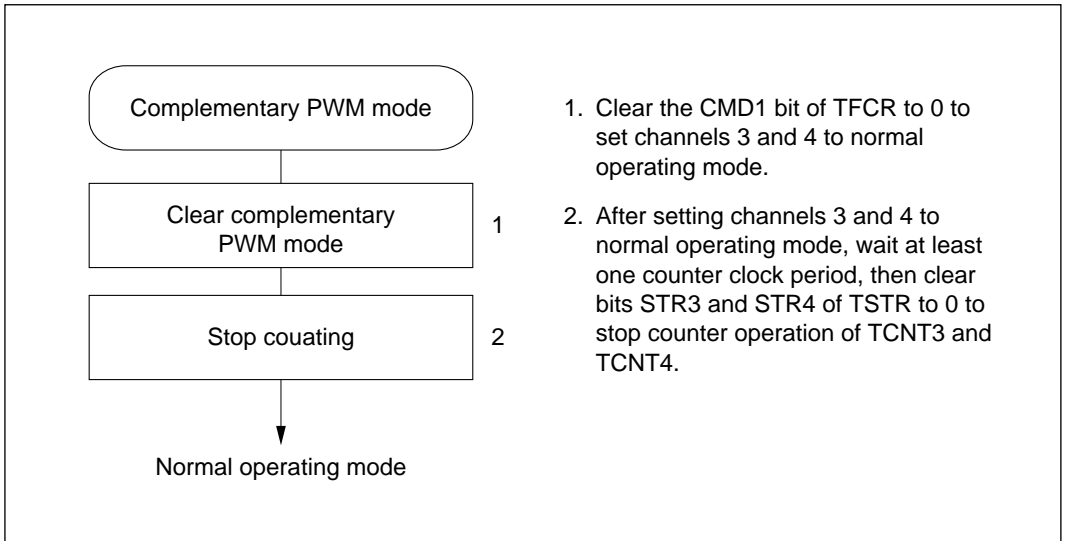

Figure 10-34 Clearing Procedure for Complementary PWM Mode
Clearing Procedure for Complementary PWM Mode: Figure 10-34 shows the steps to clear complementary PWM mode. First, (1) set combination mode (CMD) 1 and 0 bits in the timer function control register (TFCR) from 10 back to 00 or 01, to switch from complementary PWM mode to normal operating mode. Next, (2) wait at least one period of the counter input clock used by channels 3 and 4, then clear counter start (STR) 3 and 4 bits in the timer start register (TSTR) to stop operation of counters TCNT3 and TCNT4 in channels 3 and 4.